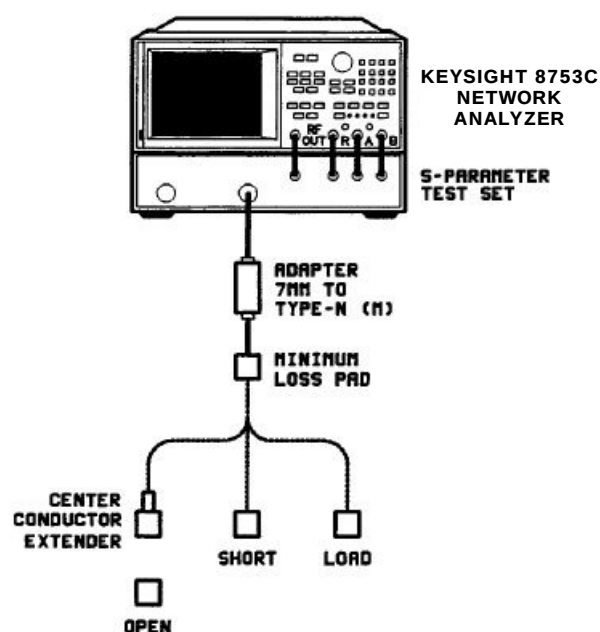

Figure 3-4 Equipment setup for a 522 1-port measurement calibration
- 5 When prompted, connect the standards as shown in Figure 3-4.